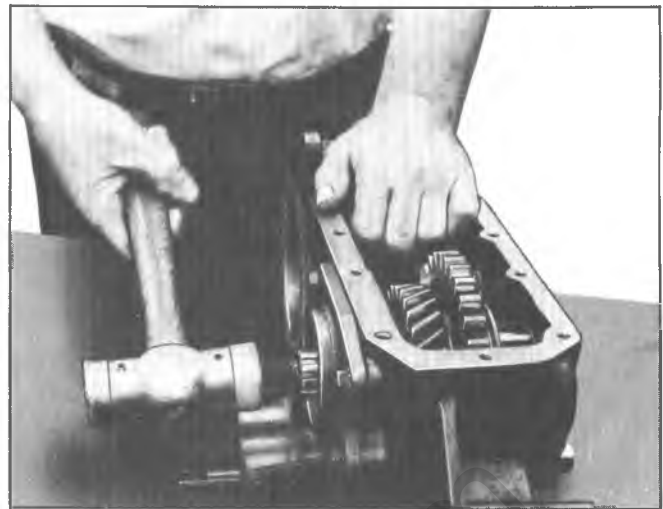

Fig. 4D-Removing Front Output Shaft
10. Tap on front end of front output shaft, removing shaft from the rear of the case as shown in Figure 4D. Remove front washer, front bearing, gear washer, and output gear from case as they clear shaft. This procedure will also remove the rear bearing cup.